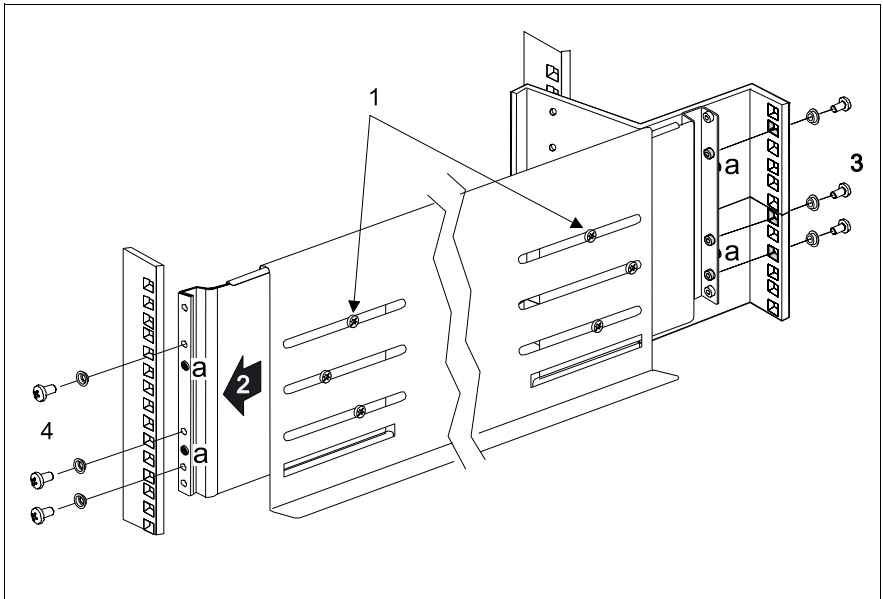

Figure 7: Mounting the left carrier rail
- 12 plug washers (figure 7 on page 39) and screws